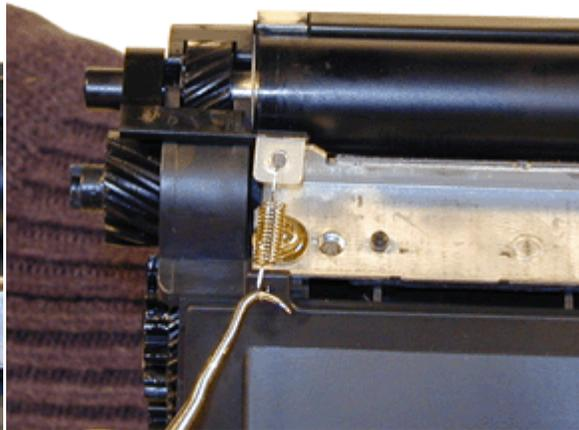

FIGURE 32
24. Install the two small springs on the tensioners. Make sure you keep the hook side of the spring down! See Figure 32